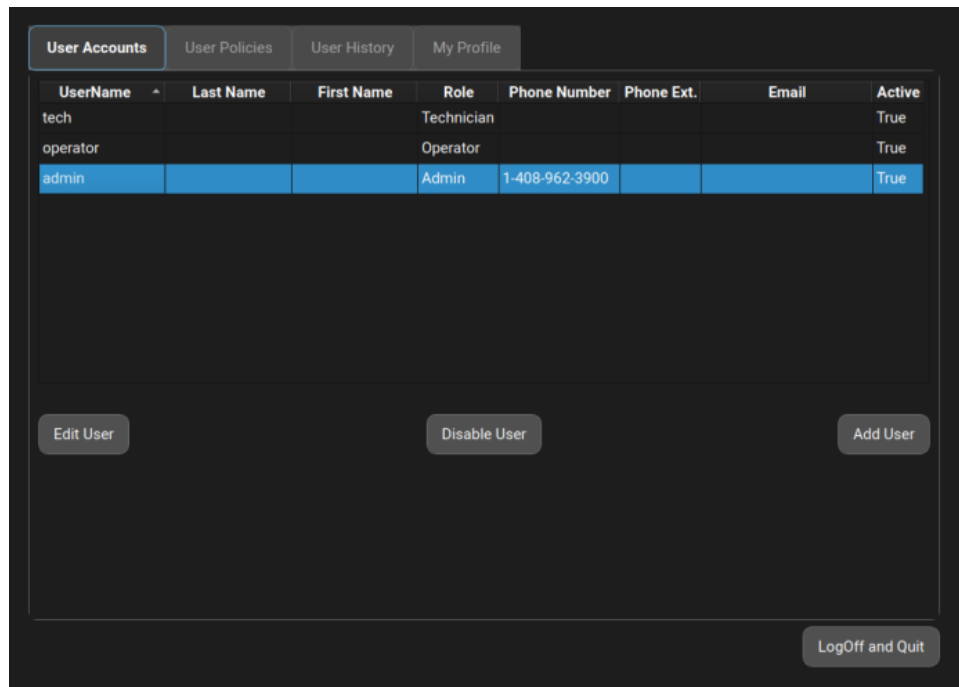

Figure 38 - User Management Window
3. From the **Tools** menu, select **User Administration** to view the User Management as shown in Figure 38.